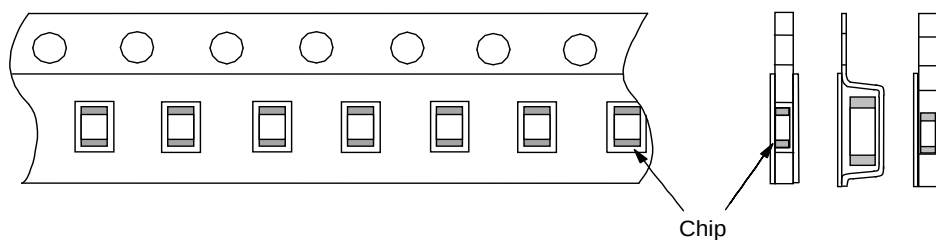

Fig.2 Dimensions of Reel
|       |                    |                                                                                                                                                                                                                                                                                                                                                                           | <p>Solder the capacitor on the test substrate(glass epoxy board) shown in Fig1.</p> <p>Then apply a force in the direction shown in Fig 2 for 60s.</p> <p>The soldering should be done by the reflow method and should be conducted with care so that the soldering is uniform and free of defects such as heat shock.</p> <table border="1"> <thead> <tr> <th>Type</th><th>a</th><th>b</th><th>c</th></tr> </thead> <tbody> <tr> <td>GCJ15</td><td>0.5</td><td>1.5</td><td>0.6</td></tr> <tr> <td>GCJ18</td><td>0.6</td><td>2.2</td><td>0.9</td></tr> <tr> <td>GCJ21</td><td>0.8</td><td>3.0</td><td>1.3</td></tr> <tr> <td>GCJ31</td><td>2.0</td><td>4.4</td><td>1.7</td></tr> <tr> <td>GCJ32</td><td>2.0</td><td>4.4</td><td>2.6</td></tr> </tbody> </table> <p>(in mm)</p>  <p>Fig.1 t:1.6mm (GCJ15:0.8mm)</p>  <p>Fig.2</p> | Type | a | b | c | GCJ15 | 0.5 | 1.5 | 0.6 | GCJ18 | 0.6 | 2.2 | 0.9 | GCJ21 | 0.8 | 3.0 | 1.3  | GCJ31 | 2.0 | 4.4 | 1.7 | GCJ32 | 2.0 | 4.4 | 2.6 |
1.11 Reel is made by resin and appeaser and dimension is shown in Fig 2.